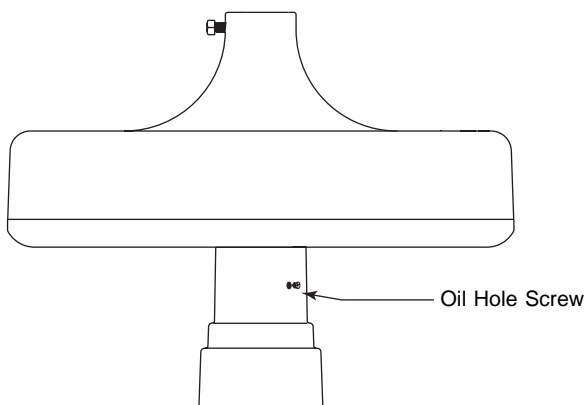

Figure 14 - Finding the oil hole
- B. Unscrew the oil hole screw on the side of the switch housing. Refer to Figure 14.